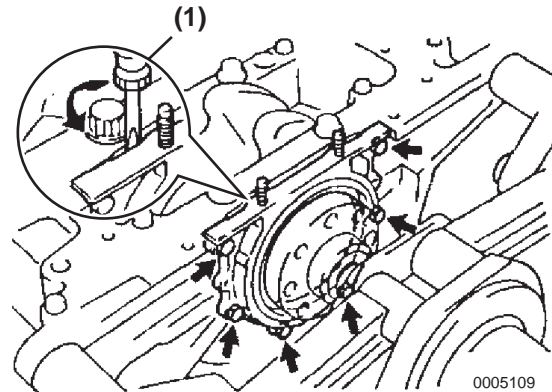

Figure 5-79
2. Insert a screwdriver between the oil seal case and main bearing cap and pry **(Figure 5-79, (1))** to remove the oil seal case.